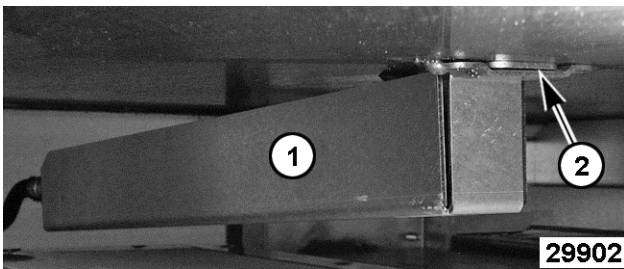

Fig. 19
4. Insert rear mounting tab (1, Fig. 19) on thermocouple shield into the support bracket on the bottom of griddle plate (2, Fig. 19).